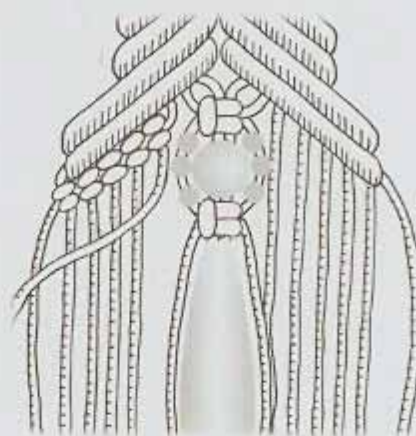

Fig. 4
16. Row 7, Right Side - Take Cd #6 and bring it to the left and make a **VDHH** around Cds # 5 - 1 (see Figure 4).